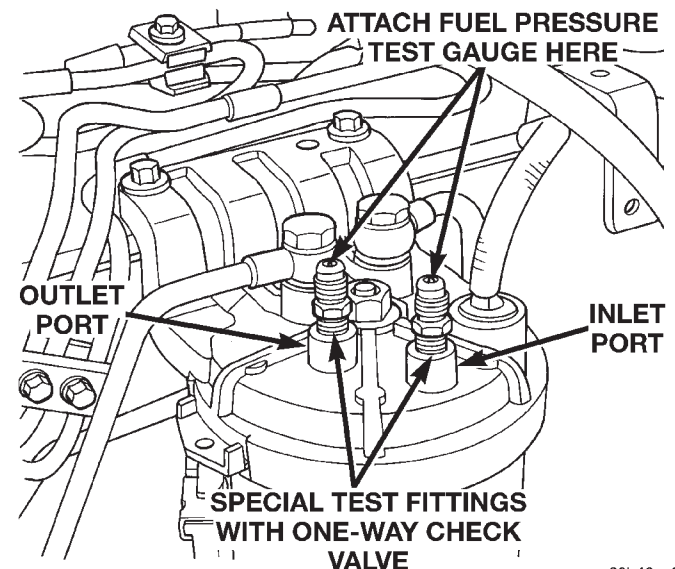
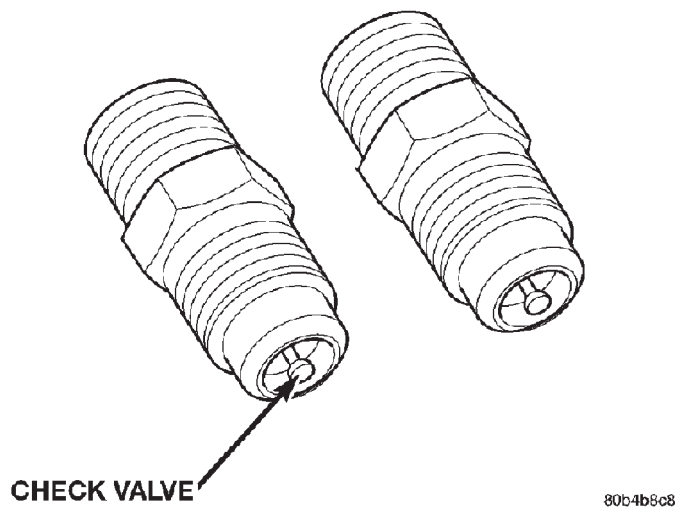

Fig. 20 Fuel Pressure Test Port Fitting Location
Fig. 21 Fuel Pressure Test Port Fittings
(plugs), install 2 special fittings (Fig. 20). These special fittings are equipped with a spring-loaded shut-off valve (one-way check valve) and are commercially available from a Tube Fitting Supplier. Use Parker® Access Valve, Male Connector part number AVU1-2 or equivalent (Fig. 21).
(2) Install Special Fuel Pressure Test Gauge 6828 (or equivalent) to special fitting at INLET PORT (Fig. 20).
(3) To prevent engine from starting, remove fuel system relay (fuel injection pump relay). Relay is located in Power Distribution Center (PDC). Refer to label under PDC cover for relay location.
(4) Using key, crank engine over while observing gauge. Pressure should be 5–7 psi.
(5) Re-install fuel system relay to PDC.
(6) Start engine and record fuel pressure. Pressure should be a **minimum** of 69 kPa (10 psi) at idle speed.
(7) Because fuel pump relay was removed, a Diagnostic Trouble Code (DTC) may have been set. After testing, use DRB scan tool to remove DTC.
(8) Shut engine off and remove test gauge from INLET PORT. Re-attach 6828 test gauge to OUTLET PORT (Fig. 20). Start engine and record fuel pressure. Pressure should not be more than 34 kPa (5 psi) lower than INLET PORT pressure test. If so, replace fuel filter.